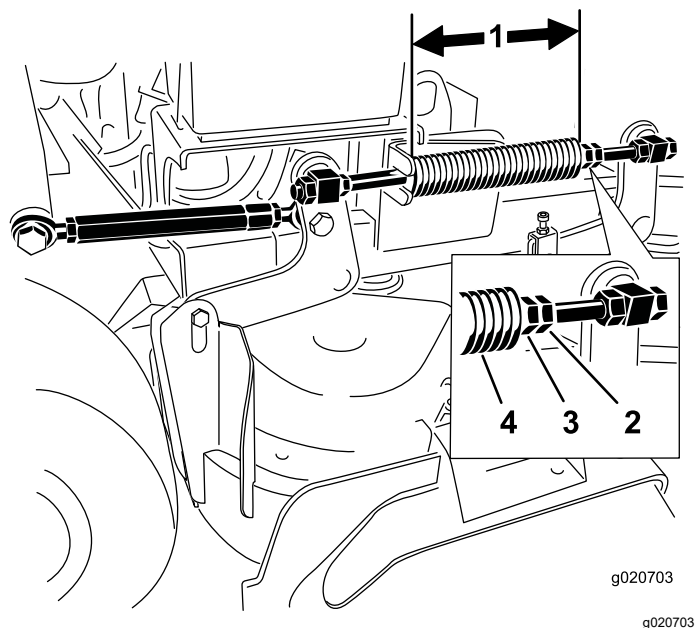

Figure 87
Note: Nominal length is 28.2 cm (11-1/8 inches) for 91 cm (36 inch) mower decks and 25.7 cm (10-1/8 inches) for 102 cm (40 inch) mower decks (Figure 87).
3. Adjust this distance by loosening the spring-jam nut and turning the nut in front of each spring (Figure 87).
4. Lock the nut into position by tightening the spring-jam nut (Figure 87).